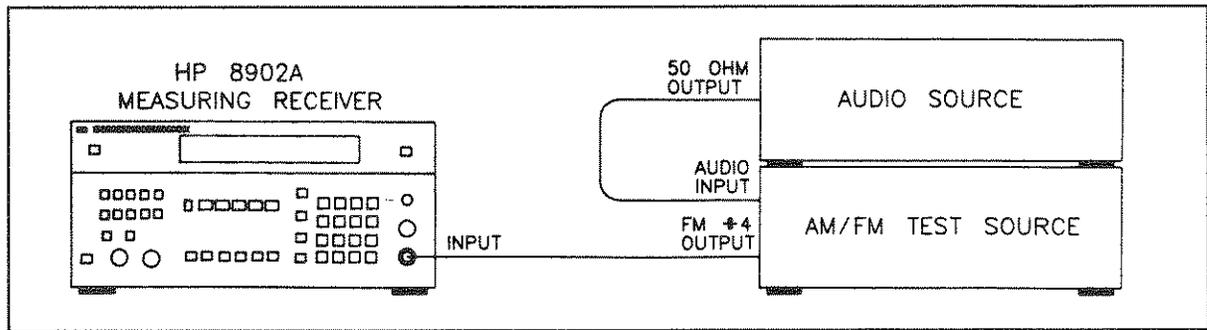

Figure 4-8. Measuring Receiver Incidental AM Verification Test Setup
a. Connect the FM divide-by-4 output of the AM/FM test source to the input of the measuring receiver, and the 50 ohm output of the test oscillator to the audio input of the AM/FM test source, as shown in Figure 4-8.